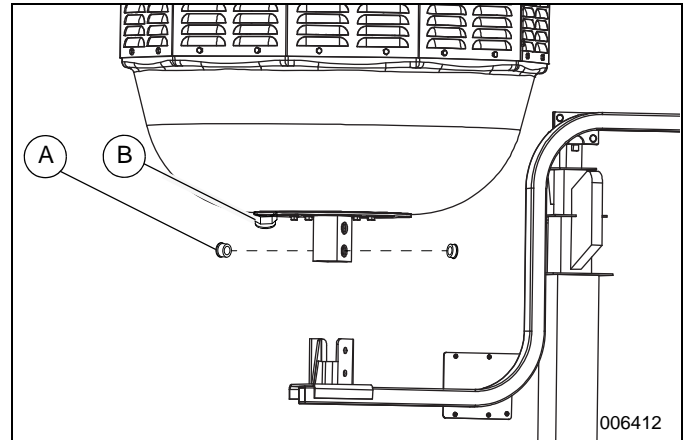

Figure 10. Bearing Installation; Proper Light Position
- See **Figure 10**. Install bearings (A) to light fixture. Arrange light fixture so strain relief (B) faces away from mast.
- See Figure 10. Install bearings (A) to light fixture. Arrange light fixture so strain relief (B) faces away from mast.